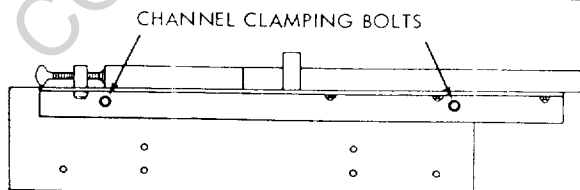

Figure 9
- Tighten both channel clamping bolts (figure 9) at both front and rear of the base until they are snug (use a wrench but do not pull them up tight).
- Move the blade to the back of table, directly behind the high point. Raise the table to blade height at this point by adjusting leveling screws, points (2 and 4, POSITION 2) on right-hand side of table. Tighten the channel clamping bolts at front and back of base on the right-hand leveled side. (See figure 9.)
- Tighten channel clamping bolts at front and back of base on the left-hand leveled side. (See figure 9.)